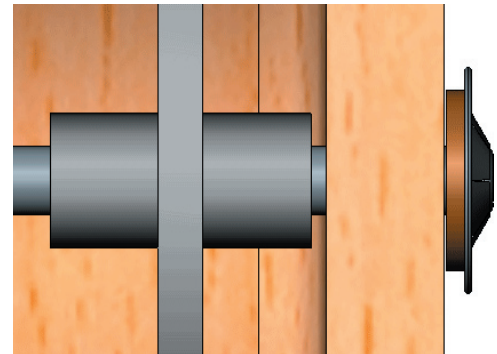

Fig. 35
Step 16. Drag the washer and retainer over next to the body, Fig. 35.